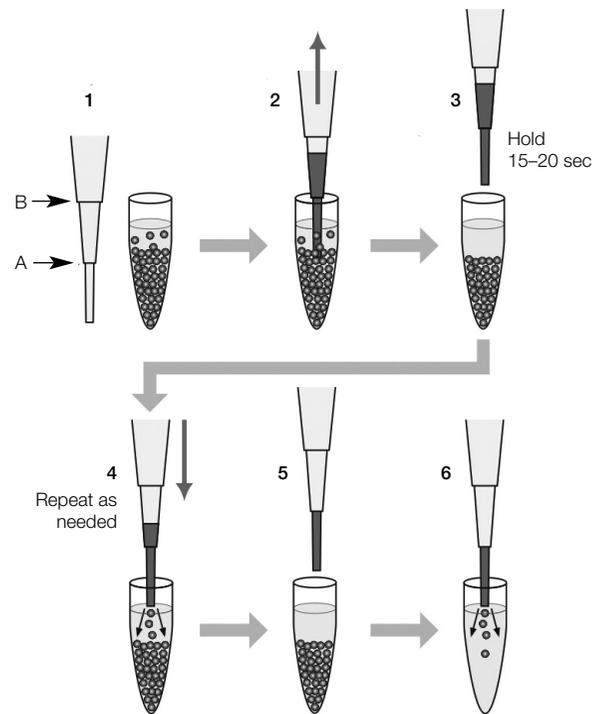

Fig. 2. Reproducible sampling of ProteinChip affinity beads.
2. Mix the ProteinChip affinity bead slurry in the tube for a few seconds with the end of the tip. Draw up a 50% excess of the slurry and immediately remove the tip from the tube (see Figure 2).